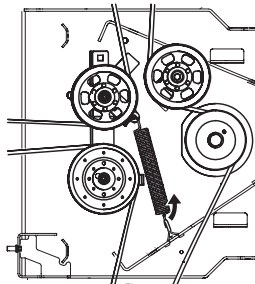

Figure 47
- b. Remove the idler spring from the wireframe spring hook on the right side of the center of the deck. See Figure 47.